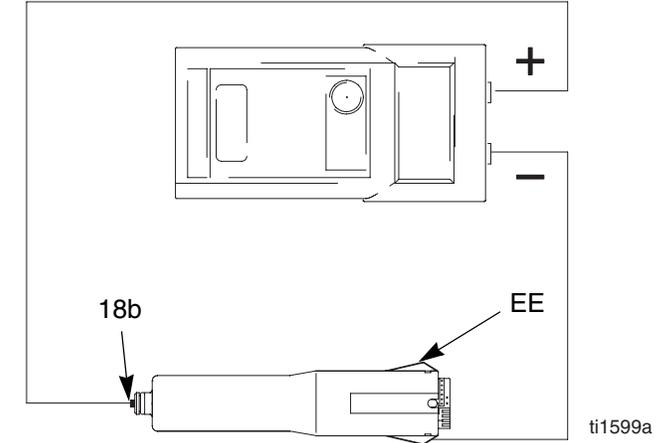

Fig. 6. Test Power Supply Resistance
1. Remove the power supply (18), page 32.
2. Remove the turbine alternator (19) from the power supply, page 33.
3. Measure resistance from the power supply's ground strips (EE) to the spring (18b). See FIG. 6.